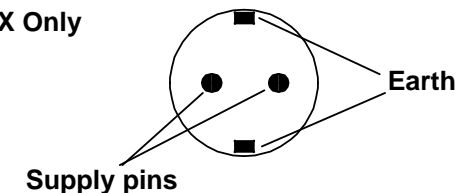

Figure 3. RX Europe Wall Outlet
**RX, Europe Only** (Figure 3). Perform the following: